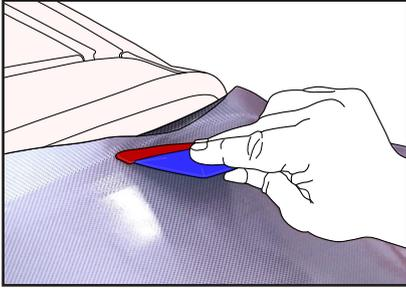

Figure 19
- › Apply the film up to the edge of the window with the squeegee without exerting any pressure. (FIG. 19)